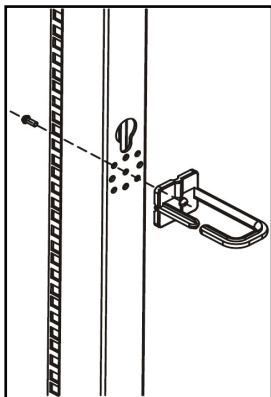

Figure 9
2. Insert a **Hook Mounting Screw** through the **Rack** and into the **Cable Management Hook**. (Figure 9)